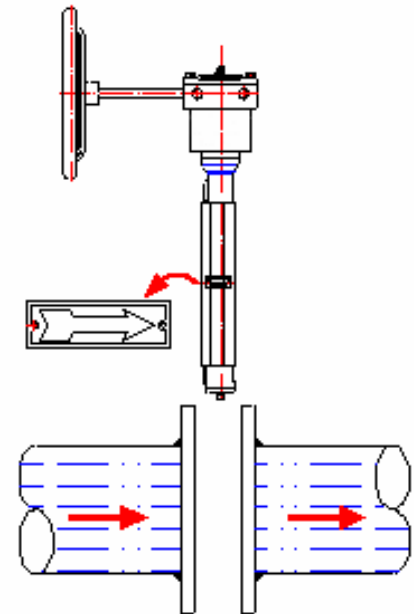

Fig.3
- 7.3. The shaft side of the disc is considered the high-pressure side of the valve, (as indicated on the drawings by a flow arrow) meaning the best closure performance is obtained on this side of the valve, and a determination as to the best installation should be made, to utilize this feature. This may not necessarily be the normal flow direction of the system. (Fig.3).